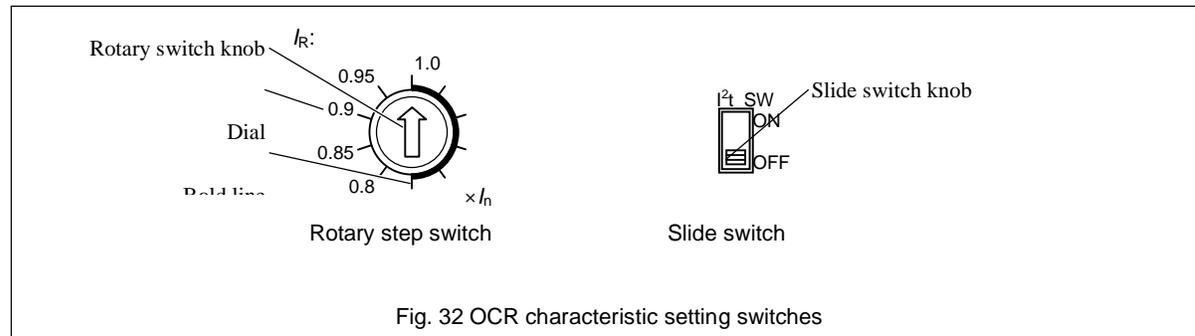

Fig. 32 OCR characteristic setting switches
- 3) Use rotary step switches and slide switches to set the OCR. See Fig. 32.